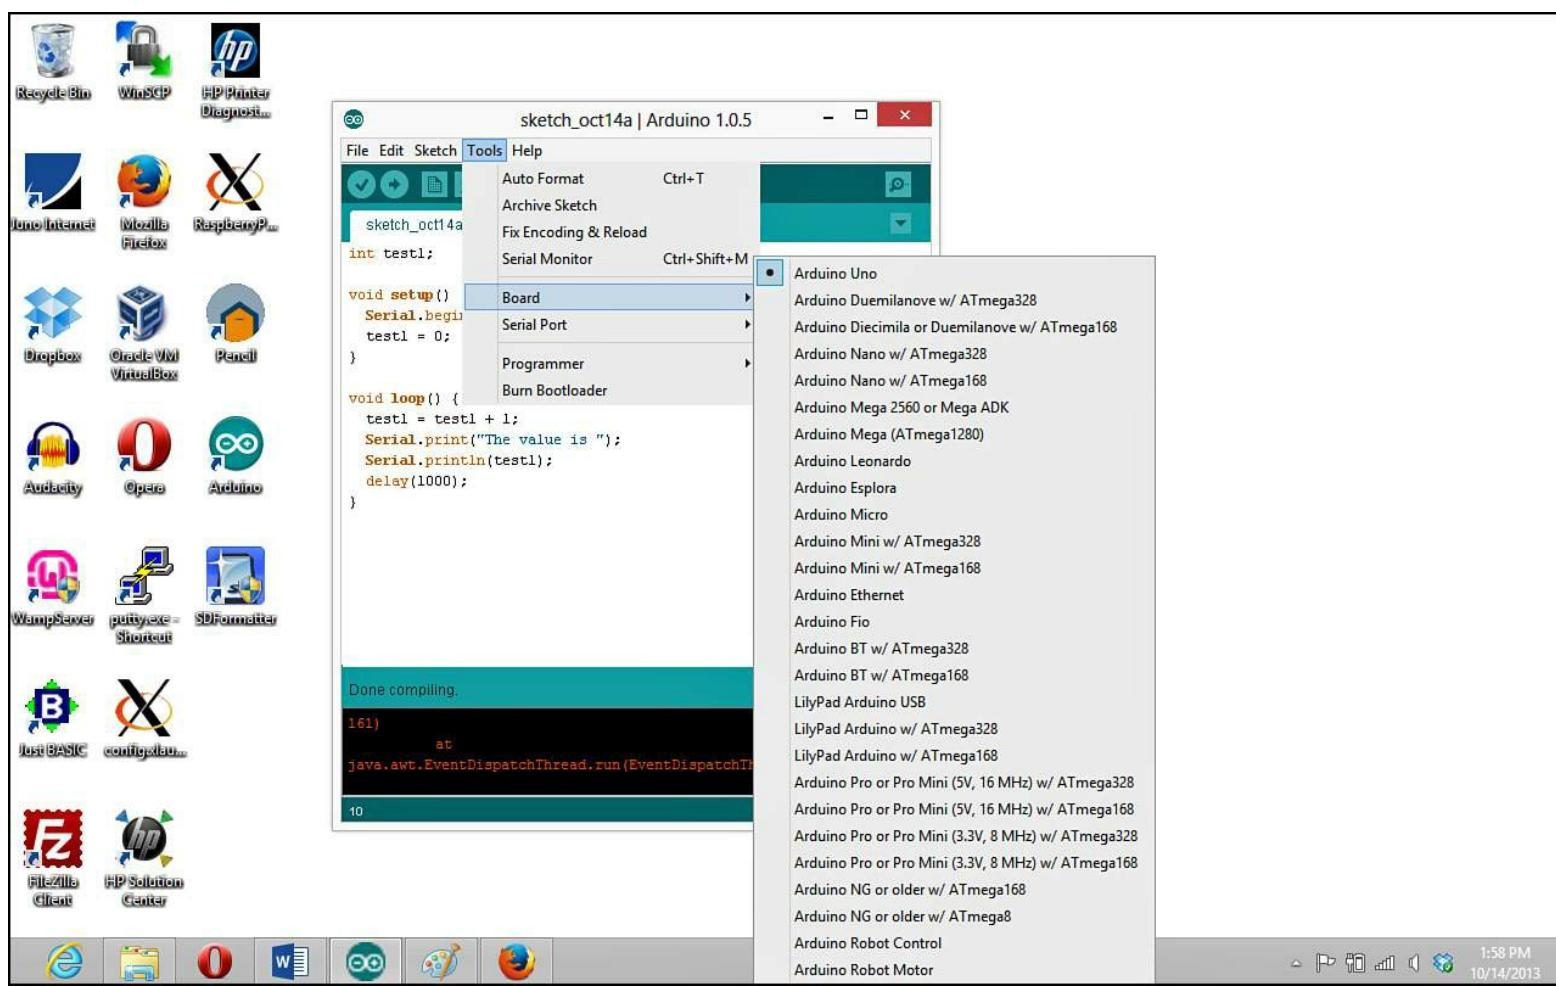

FIGURE 3.4 The Arduino board options in the Arduino IDE.
1. Make sure that the Arduino IDE is set for your specific Arduino unit. Choose Tools > Board from the menu bar. This provides a list of the various Arduino boards available, as shown in Figure 3.4.